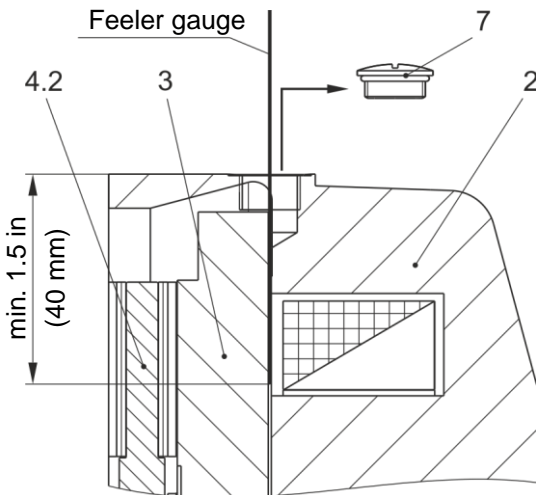

Fig. 7
The air gap can be inspected via a feeler gauge after removing the screw plug (7). The feeler gauge must be inserted at least 1.5 in (40 mm) deep (see Fig. 7), so that the distance between the armature disk (3) and the coil carrier (2) can be measured.